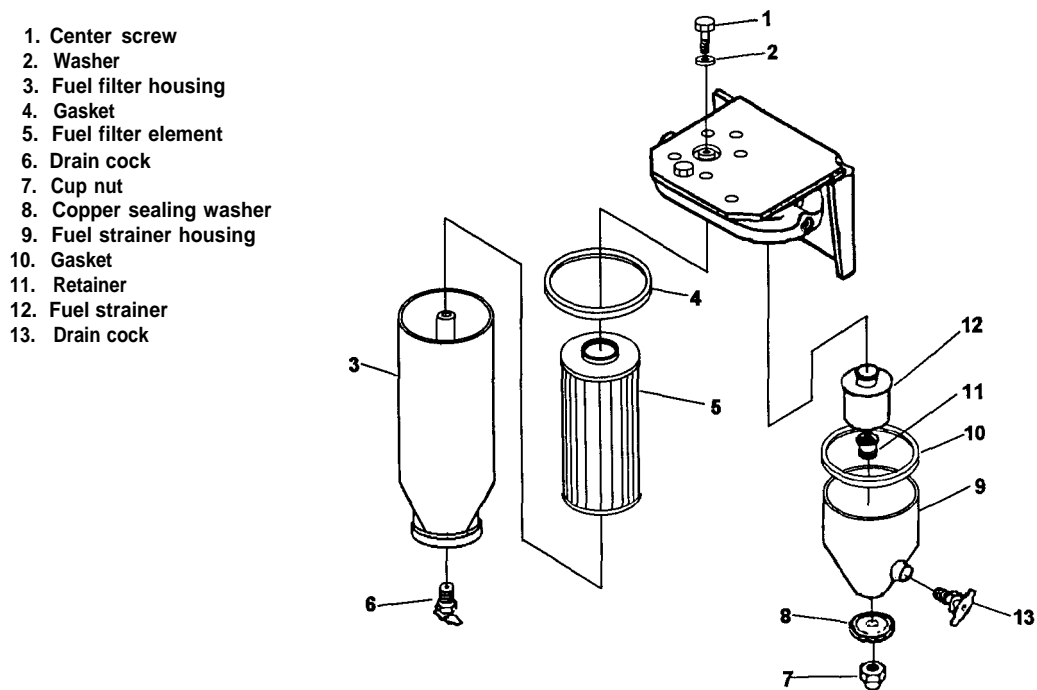

Figure 4-16. Fuel Strainer and Filter Housing, Disassembly and Reassembly
- (1) Remove center screw (1, Figure 4-16) and washer(2) to remove fuel filter housing (3) and gasket (4). Discard gasket.
- (2) Withdraw filter element (5) from housing and discard.
- (3) Do not remove drain cock (6) unless replacement is necessary.
- (4) Remove cup nut (7) and sealing washer (8) to remove strainer housing (9) and gasket (10). Discard gasket. Do not remove drain cock (13) unless replacement is necessary.
- (5) Remove retainer (11) to remove strainer (12).
- (1) If removed, install drain cock (13), (Figure 4-16).
- (2) Install strainer (12) and secure with retainer (11) finger tight.
- (3) Install replacement gasket (10) and housing (9) and secure with sealing washer (8) and cup nut (7). Tighten nut securely to prevent leaks.
- (4) If removed, install drain cock (6).
- (5) Install replacement filter element (5) into housing (3).
- (6) Install replacement gasket (4), housing (3), washer (2), and center screw (1). Torque screw to 17 ± 2 lb-ft.
- (7) Close drain cocks on strainer and filter housings.